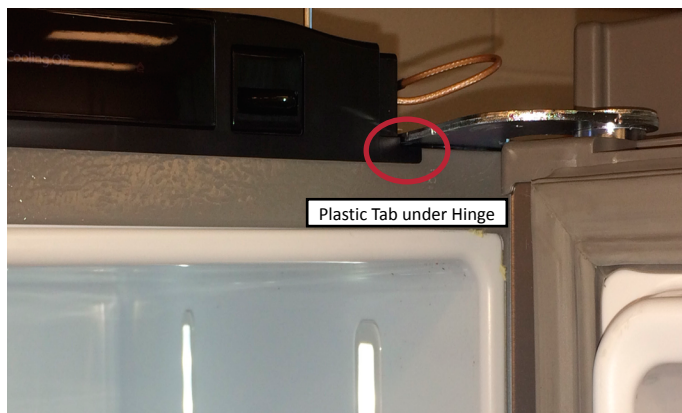

FIGURE 3: Plastic Tab Location
1. Remove the four (4) 1/4" screws holding the metal cover in place.
2. Use a screw driver to release the clip holding the plastic cover in place (FIGURE 3).
1. Remove the two (2) Philip head screws and remove each of the left and right Hinge Covers.
2. Remove the three (3) 1/4" screws from the top of the eyebrow.
4. Slide the assembly eyebrow forward until the tabs at either end of the eyebrow clear the door hinges (FIGURE 3).
Note: Replace the Eyebrow with the refrigerator doors open, and ensure the tabs on the front bottom left and right of the eyebrow are placed under the door hinges (See Previous Page, FIGURE 3).